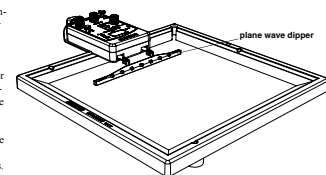

Figure 6.2: Plane Wave Dipper
- Connect the plane wave dipper to the ripple arms. Adjust the ripple generator until the bottom of the plane wave dipper is barely in contact with the surface of the water. See Figure 6.2.